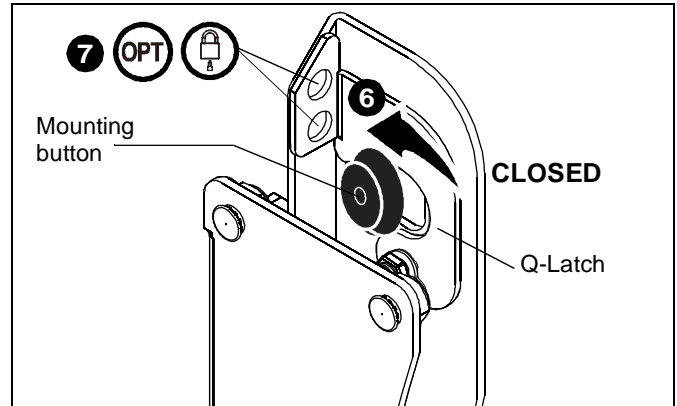

Figure 5
6. Move both Q-latches on PRO16 to the CLOSED position. (See Figure 5)
7. **OPTIONAL:** Lock the Q-latches with a padlock or bolt, if required. (See Figure 5)